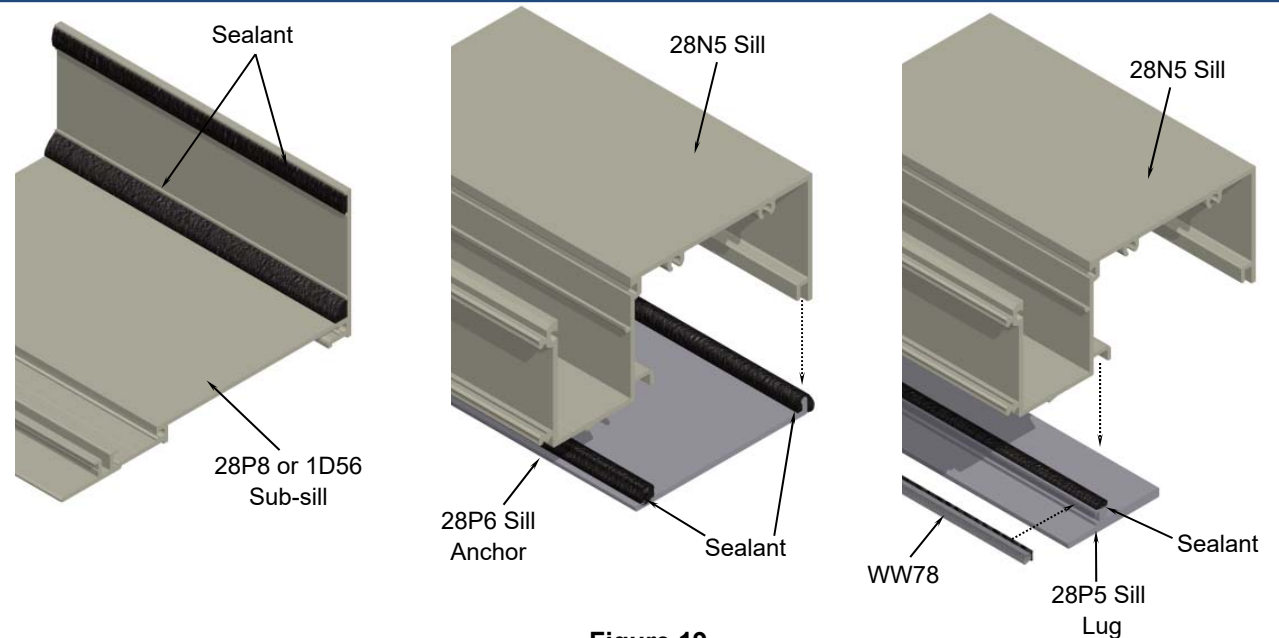

Figure 19
- Apply a silicone type sealant to the locations shown in figure 19. See project specific documentation to see which sill style will be used.